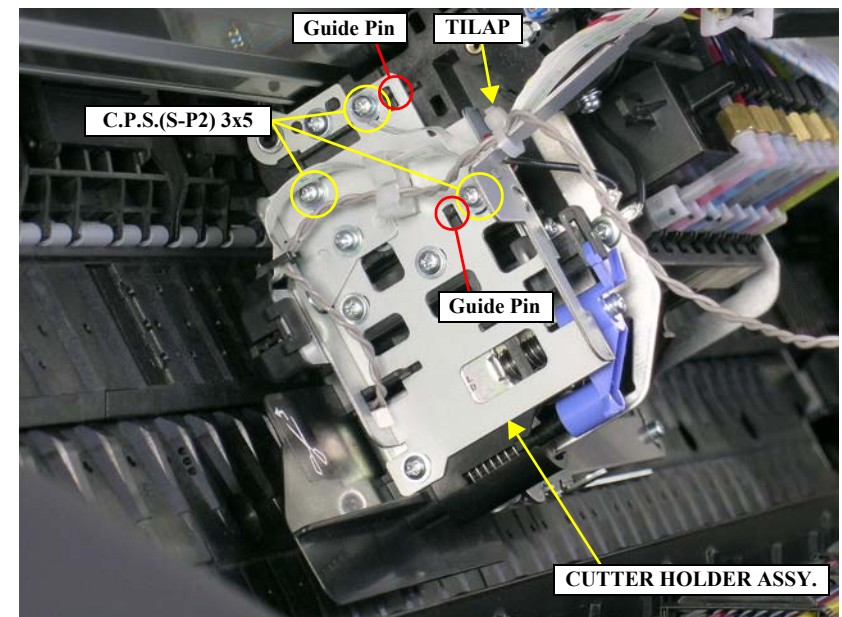

Figure 4-68. Removing the CUTTER HOLDER ASSY.
4. Cut the TILAP and release the harness, FFC, and the grounding wire. *See Figure 4-68.*
Secure the following harnesses, FFCs, and the grounding wire with a TILAP at the position shown in the figure. *See Figure 4-68.*
5. Remove the three screws that secure the CUTTER HOLDER ASSY. and remove it. *See Figure 4-68.*
Set the two positioning holes of the CUTTER HOLDER ASSY. onto the two guide pins. *See Figure 4-68.*